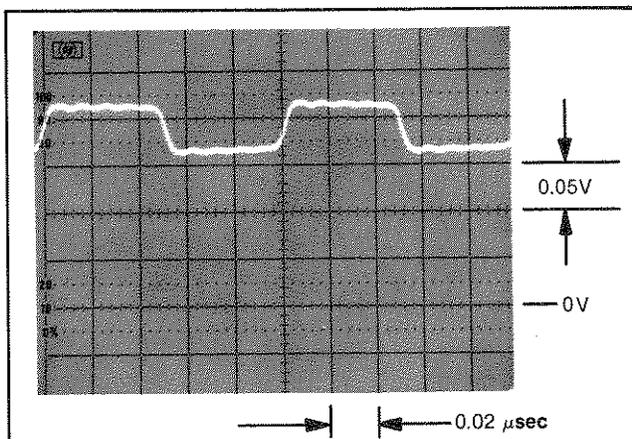

Figure 5-3. Input Amplifier Adjustment Waveform
f. Adjust A1R43 for a 50/50 duty cycle. Refer to the waveform in *Figure 5-3*.